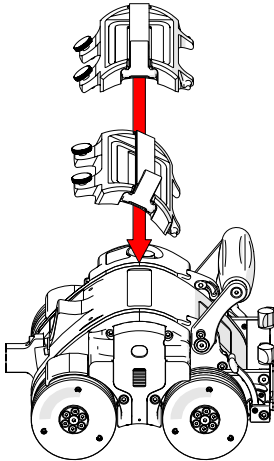

Fig. 103 - Angle backpack
1. Angle the backpack (Fig. 103) towards the notches found on the **SKOOT** (located near the base of the handle).